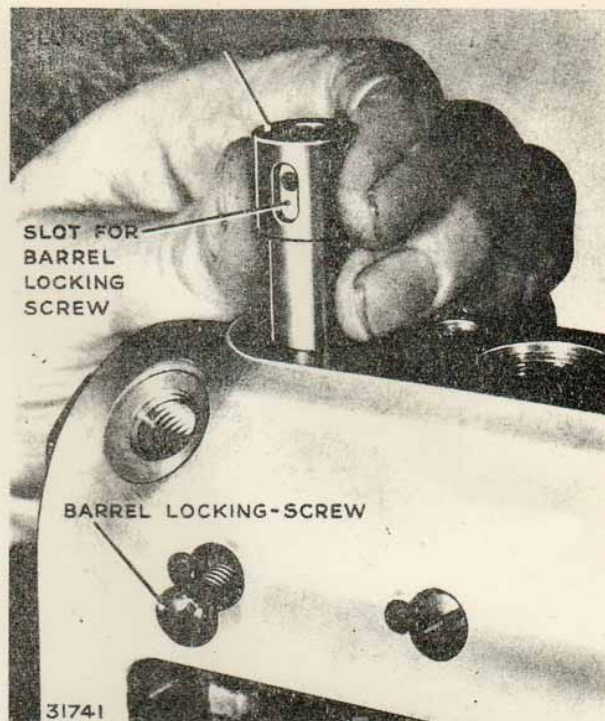

FIG. 32. REPLACING PLUNGER BARREL.
10. To remove the pump barrel, unscrew the locking screw situated above the inspection cover-plate and push the barrel from below with a fibre or soft brass drift (Fig.32 ).
1. Fit the plunger barrel carefully, observing that the slot in it is opposite the hole for the locking screw (Fig. 32). Carefully screw in the locking screw, with new joint, until it locates with the slotted recess in the barrel, when it can be tightened. If correctly engaged, it will prevent rotating movement of the barrel whilst permitting a limited vertical movement.